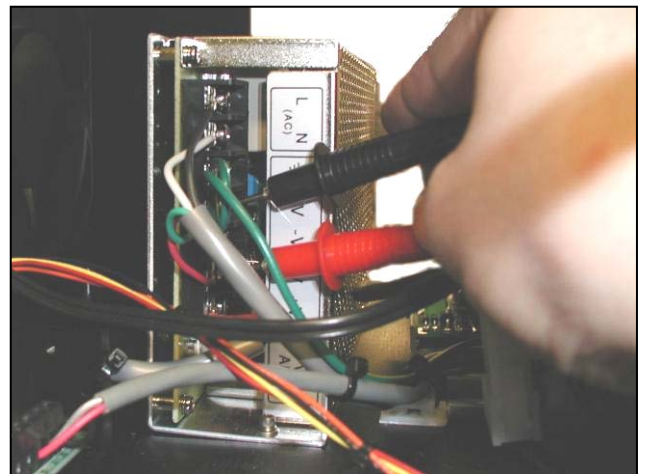

Figure 3-31. Testing 24 VDC on Power Supply
- Place the black probe on the “V-“contact and the red probe on the “V+” contact (Figure 3-31).